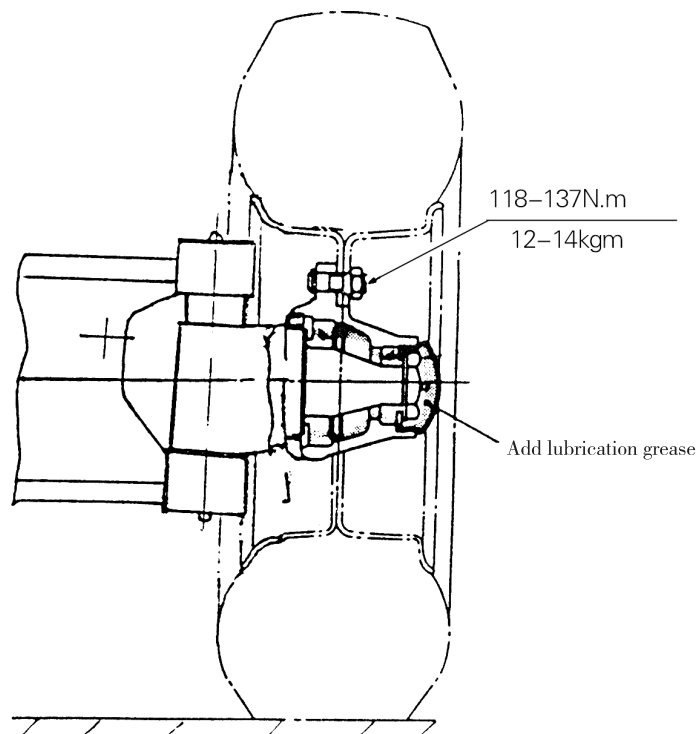

Fig.7-2 Pre-load adjustment
(1) As shown in Fig.7-2, with lubricating grease, fill up the chamber formed by wheel hubs, wheel hub bearings and wheel hub covers and coat the lips of the oil seals.
(2) Press the hub bearings into the hub and fit the hub on the knuckle shaft.
(3) Fit a flat washer and tighten a castle nut to a torque of 206-235N.m (21-24kgm) and loosen it and then tighten it again to a torque of 9.8N.m (1kgm).
(4) To ensure firm installation of the hub, slightly knock at it with a wooden hammer and in the meantime, rotate the hub for 3-4 turns.
(5) Tighten the castle nut and align one of its notches with a cotter pin hole drilled in the steering knuckle.
(6) Again slightly knock at the hub with a wooden hammer and in this time, rotate manually the hub for 3-4 turns to ensure its smooth rotation with a specified torque of 2.94-7.8N.m (0.3-0.8kgm).
(7) If the torque value necessary to rotate the hub is more than the specified one above-mentioned, screw out the castle nut for 1/6 turn and measure the torque value then.
(8) When the torque value measured is up to the specified one, lock the castle nut with a cotter pin.